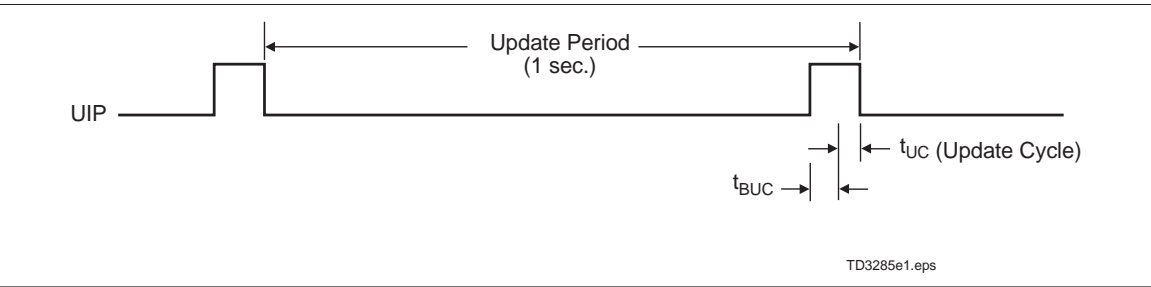

Figure 2. Update Period Timing and UIP
each update period (see Figure 2). The alarm flag bit may also be set during the update cycle.
The update-in-progress bit (UIP) in register A is set t_{BUC} time before the beginning of an update cycle (see Figure 2). This bit is cleared and the update-complete flag (UF) is set at the end of the update cycle.